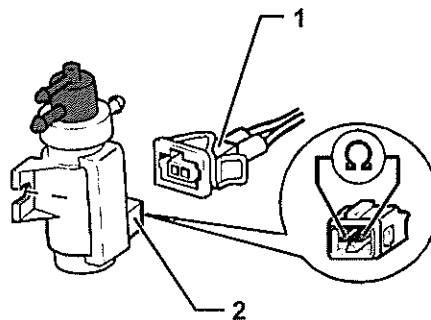

Fig 11 EGR solenoid valve (N18)
19.3 Pull off the plug (see Fig 11 (1)) on the EGR solenoid valve (N18) (see Fig 11 (2)).